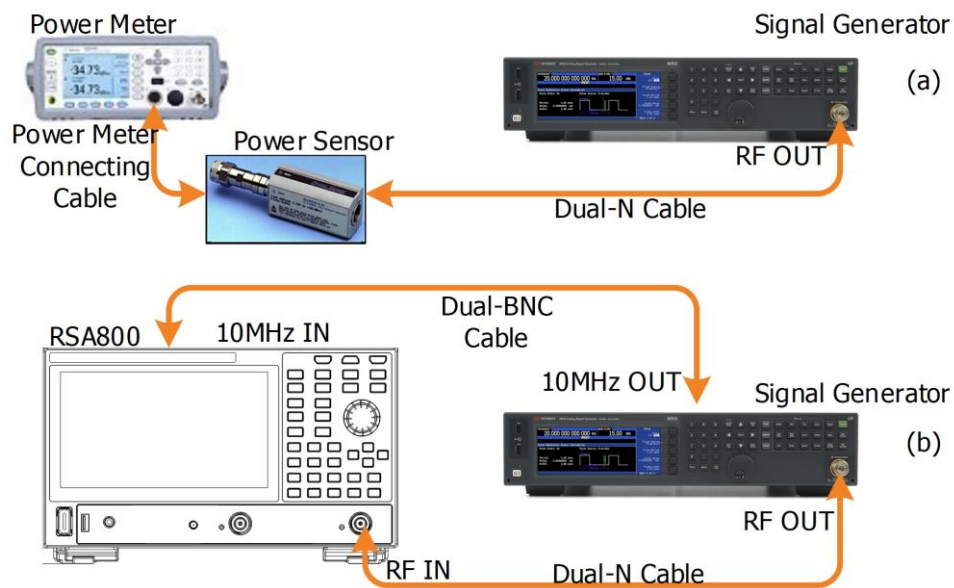

Figure 4.4 Frequency Response Test Connection Diagram
2. Connect the output terminal of the signal generator with the power sensor, as shown in Figure 4.4 (a).
8. Connect the output terminal of the signal generator with the RF input terminal of the spectrum analyzer, as shown in Figure 4.4 (b).